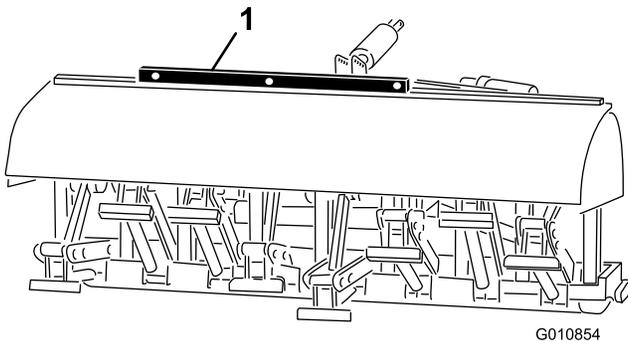

Figure 25
2. Place a level on top of the aerator frame to check for level side-to-side (Figure 25).